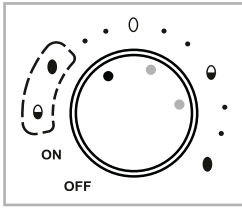

Fig. 2
- Select the **left** dot of the range (see fig. 2), if